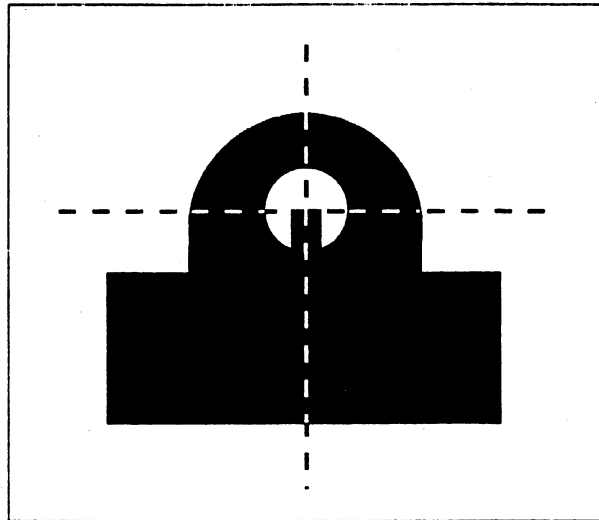

Fig 2-3. Sight alignment for 800 meters or less.
- (1) For several reasons, the accuracy of your first burst determines how effective your fire will be.
- (2) Sight alignment is composed of three elements.
c. Sight alignment on the M240G. The M240G is unique because the rear sight can be adjusted for two different settings. One adjustment of the rear sight is for 800 meters or less, and another adjustment of the rear sight is for 800 to 1800 meters. As you read this material, closely observe figures 2-3 and 2-4.
- (1) 800 meters or less. Figure 2-3 shows the proper sight picture you should have when using the sight in the 800-meter-or-less position. In this position, notice a bar centered in the sight.